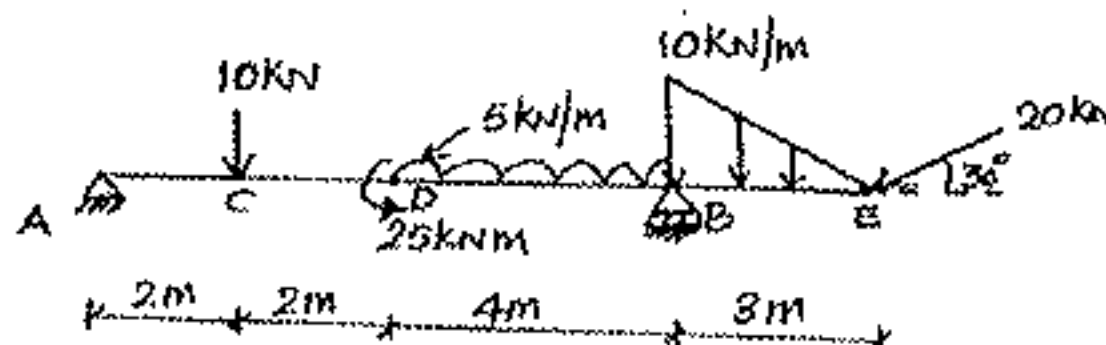

Figure 2
- Determine the support reactions for the beam shown in Figure 2 at A and B.